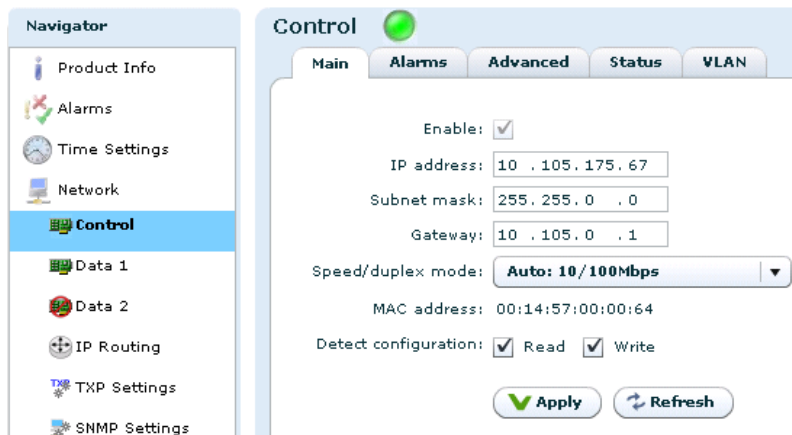

Figure 8.1 Configuring network settings via the Web GUI
3. Browse to Device Info -> Network -> Control in the GUI, and set the correct IP address settings. Click apply to activate the new parameters. Figure 8.1 shows this GUI screen.